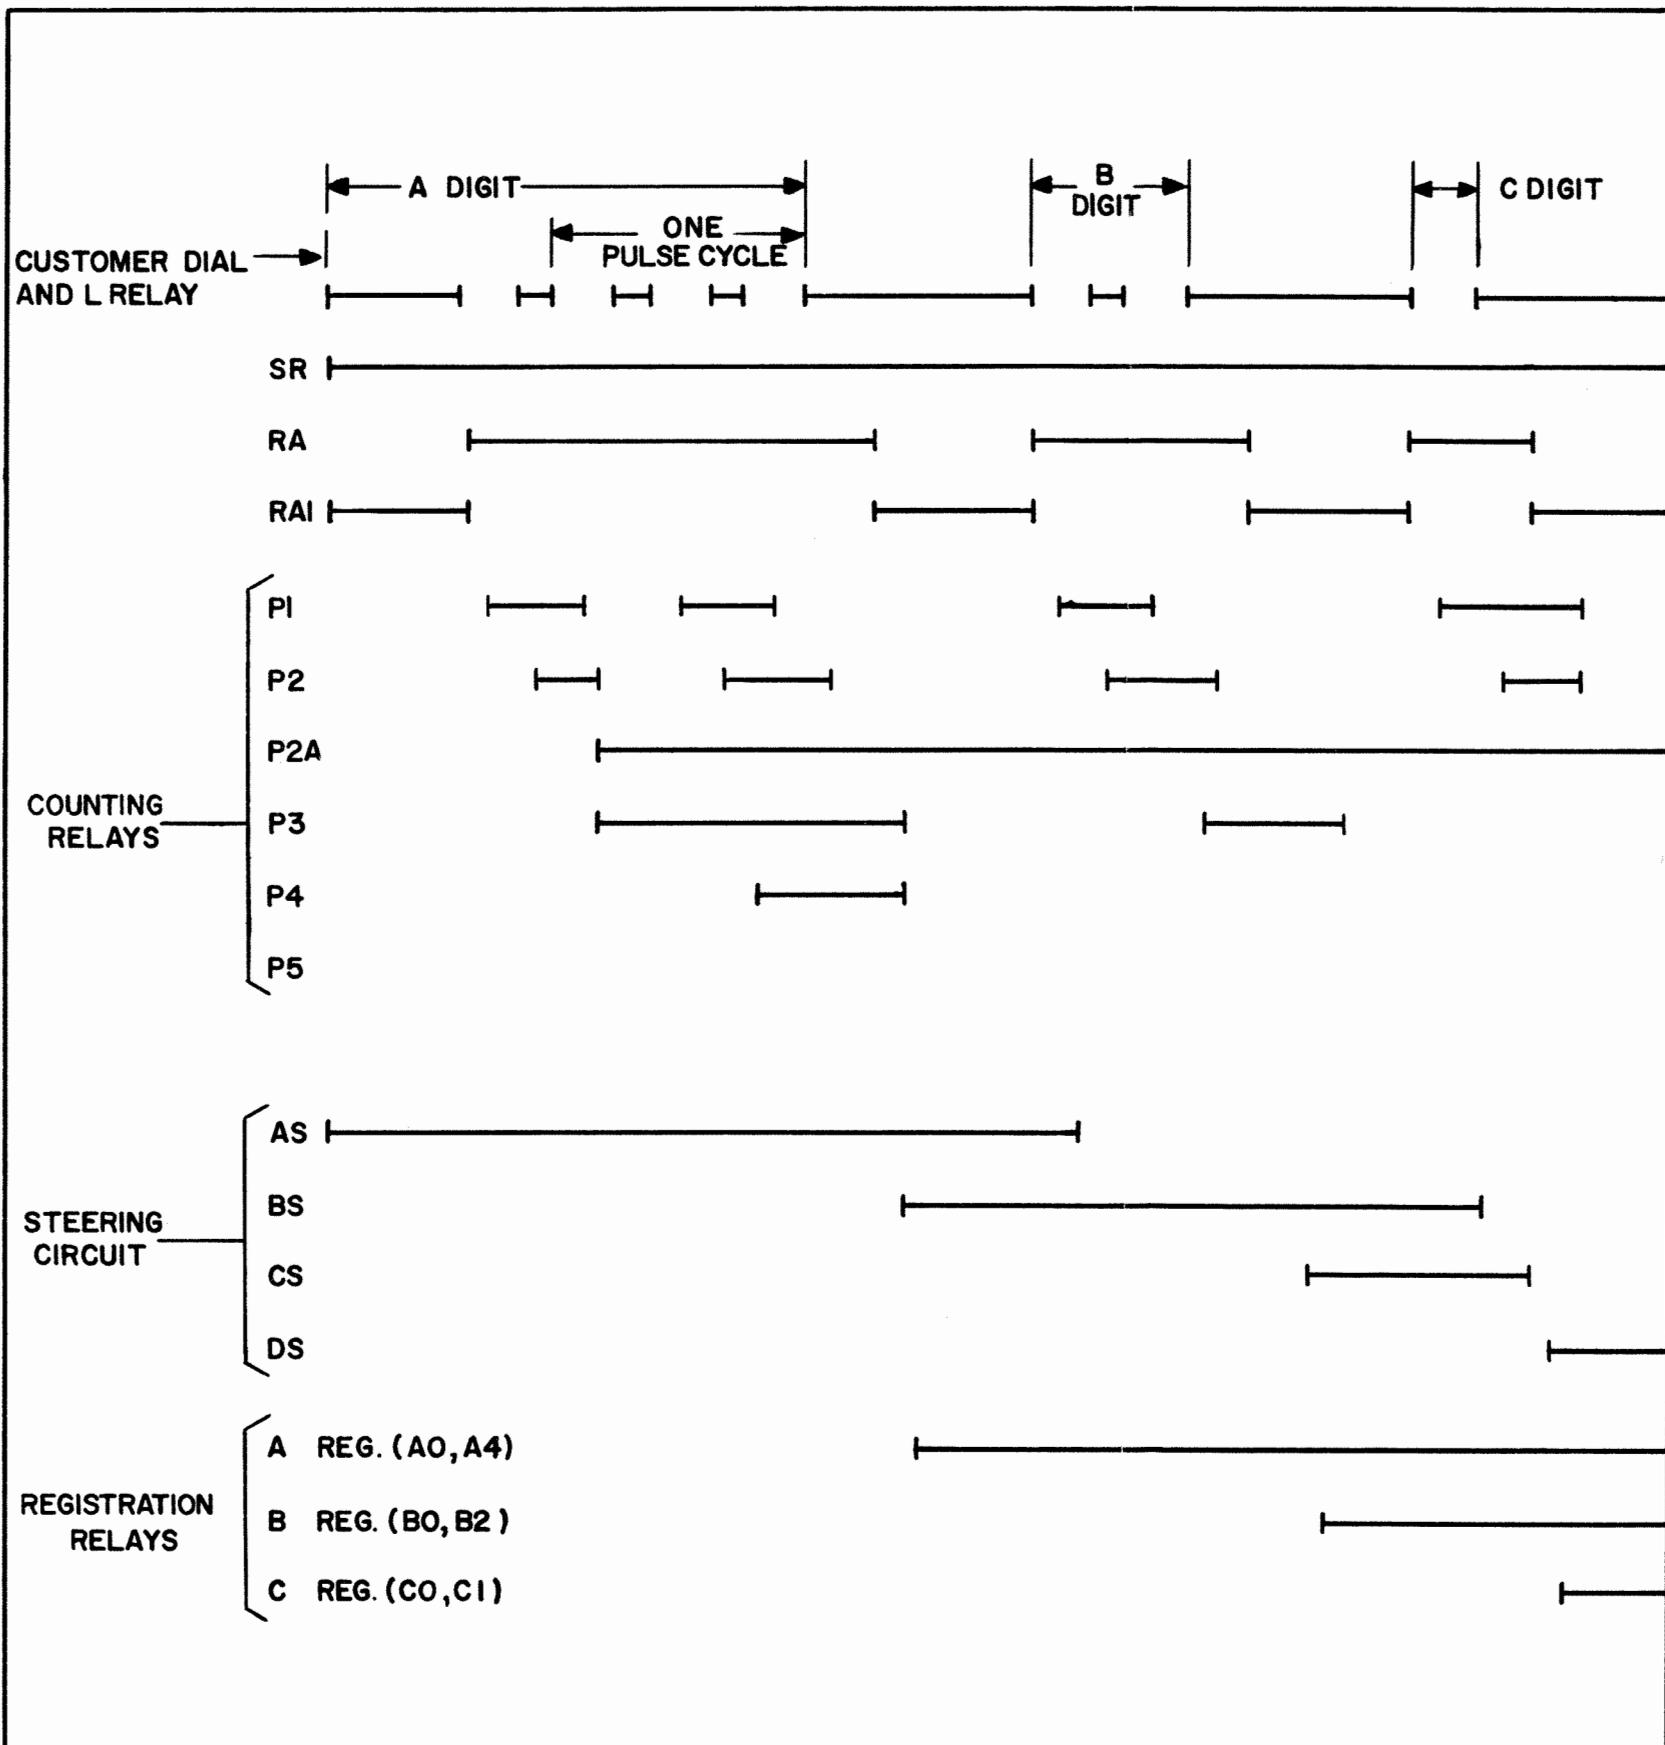

FIG.2- REGISTRATION OF CALLED NUMBER 421
2.04 Fig. 2 shows the relay operations if the numbers 421 are dialed into an originating register. The periods of operation of the various relays are shown by horizontal lines. The left end of each line represents the point at which the relay is operated; the right end of the line represents the point where it is released.